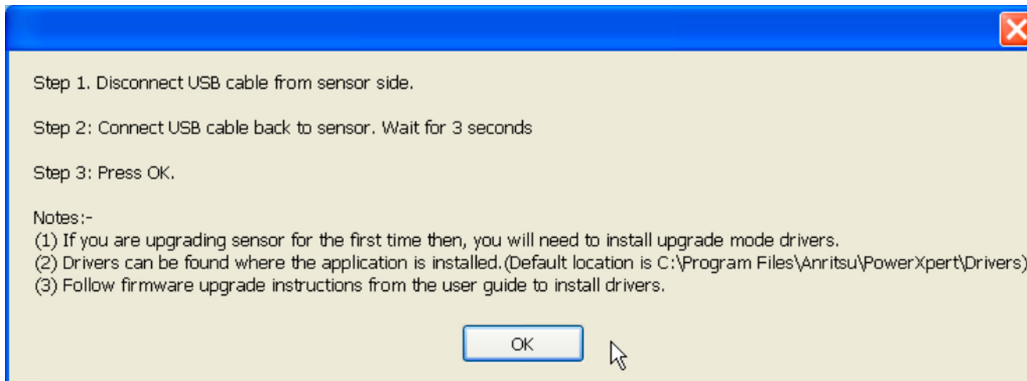

Figure B-8. Continuing with Firmware Update
9. If the upgrade driver is installed, click **OK** (Figure B-8) to continue with the firmware upgrade. The Firmware Upgrade Application shown in Figure B-9 appears.